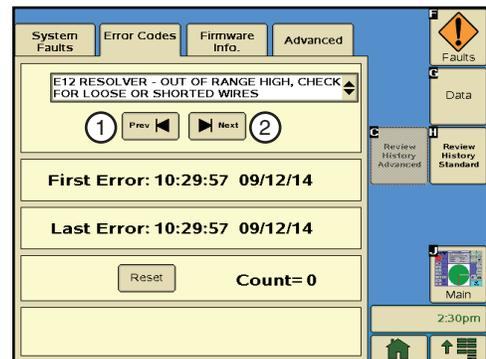

Figure 52-4 1. Previous Button
2. Push the **Prev** and **Next** buttons to view all of the error codes. Viewing an error code clears the Error Notice icon from the Main screen. See Figure 52-4.